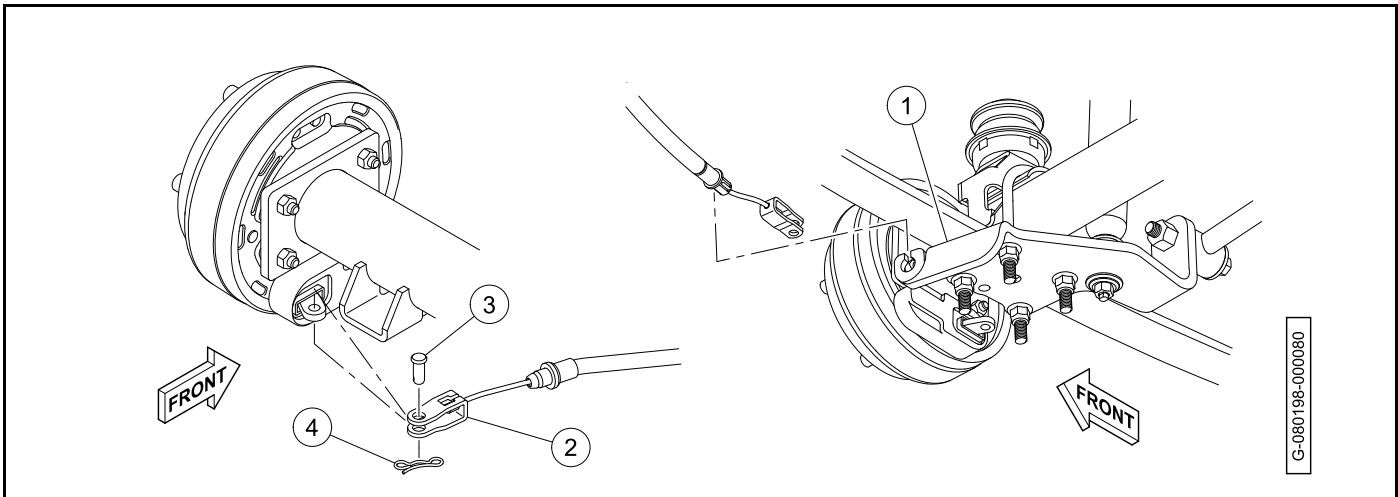

Figure 6-32
3. Insert the rear cable housing into the shock mount bracket (1) **(Figure 6-32)**.